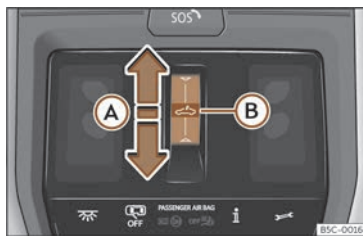

Fig. 82 On the interior roof lining: sunroof button.
- Automatic movement: slide your finger back over the functional area  >>> **Fig. 82 (A)**.
- Before approx. 5 seconds after activation of the anti-trap function, slide your finger forward over the functional area  >>> **Fig. 82** (A) and keep pressed until the sunroof is fully closed.